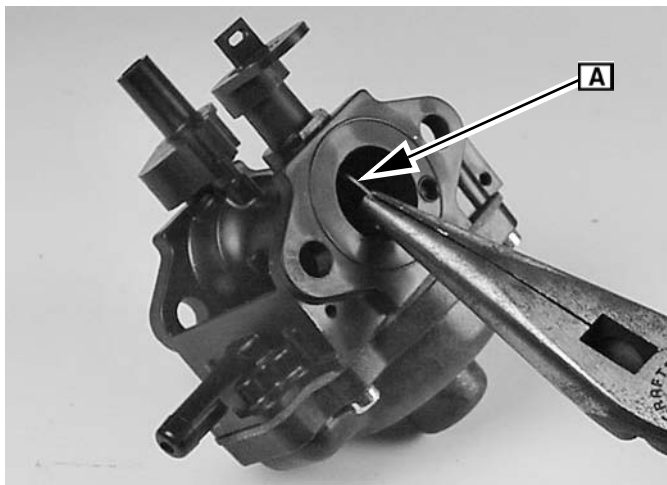

Fig. 38
1. Using needle nose pliers, gently pull the throttle plate **A** out of the throttle shaft (Figure 38). Note the orientation of the small protrusions on the throttle plate as you pull it out.